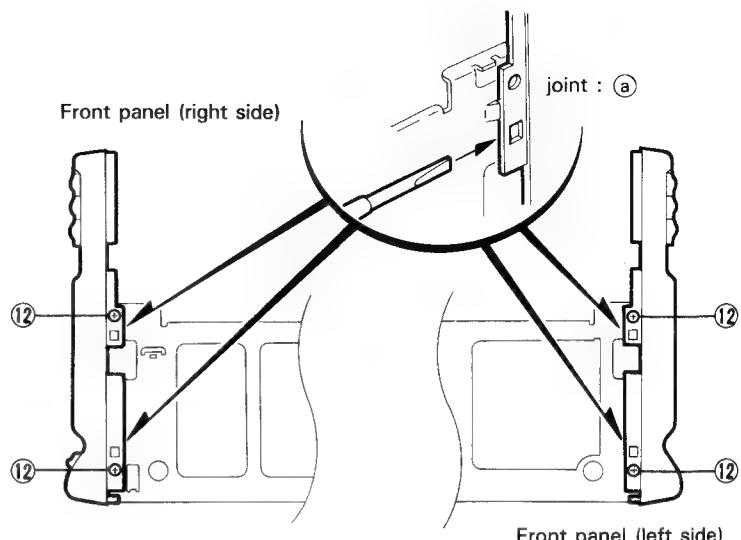
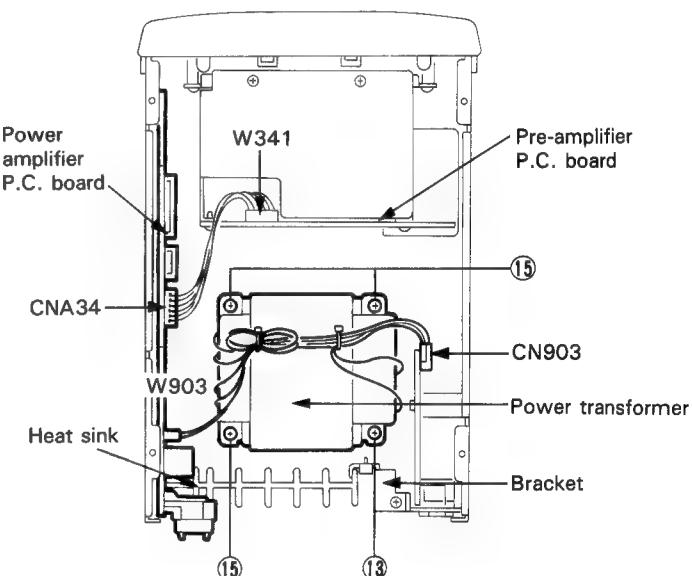

Fig. 7-13
Fig. 7-14
8. Remove the three screws ⑪ retaining the CD changer control P.C. board.
■ Method of removing the front panel assembly (Refer to Figs. 7-13 ~ 7-14)
6. Remove the four conical screws ⑫ retaining both sides of the front panel assembly (Refer to Fig. 7-13).
7. With a minus screws driver, remove the four engagements ⑬ retaining both sides of the front panel assembly.
■ Method of removing the power amplifier P.C. board (Refer to Fig. 7-14)
7. Remove the one screw ⑬ retaining the heat sink bracket on the power amplifier P.C. board (Refer to Fig. 7-14).
8. Remove the two wire treating clamps outgoing from W903 on the power transformer and power amplifier P.C. board (Refer to Fig. 7-14).
9. From the connector CN903 on the power supply P.C. board, remove the #4 PIN connector outgoing from W903 on the power amplifier P.C. board (Refer to Fig. 7-14).
■ **Method of removing the power transformer and power supply P.C. board (Refer to Figs. 7-14 and 7-15)**
2. Remove the four screws ⑯ retaining the power transformer (Refer to Fig. 7-14).